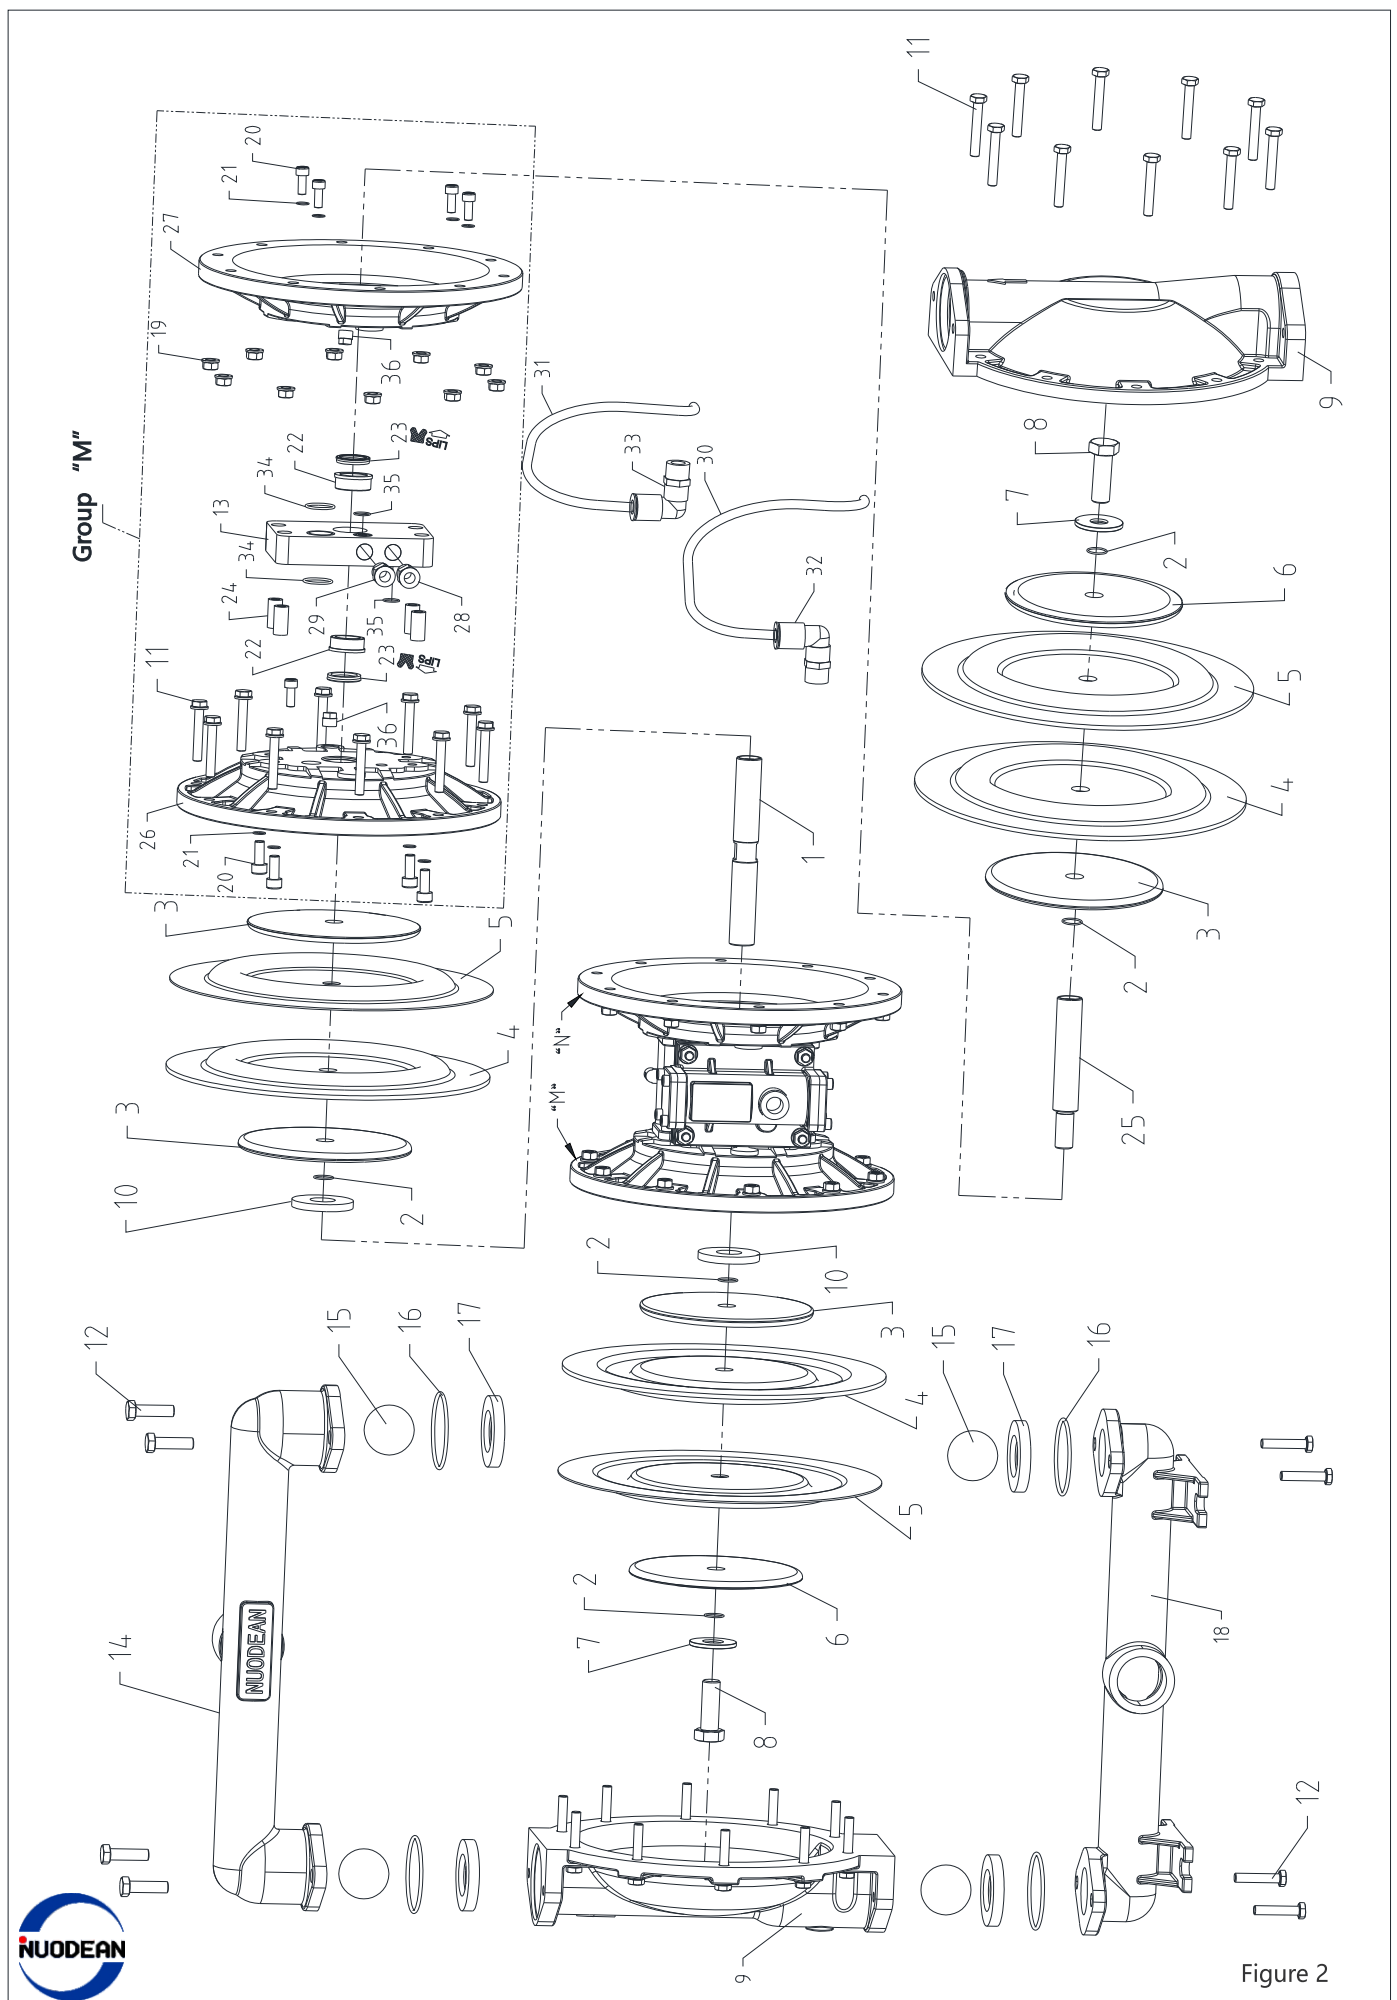

Figure 2
1. Remove (31), and (30) from the pump. See Figure 2.
2. Remove the manifolds (14) & (18) . See Figure 2.
3. Remove (15) balls, (16) O-rings, and (17) seats. See Figure 2.
4. Remove (9) fluid caps. See Figure 2.
5. Remove (8) bolts, (7) washers, (5) or (5 & 4) diaphragms, and (3), and (6). See Figure 2.
6. Remove group "M" including (20), (21), (26), (11), (36), (23), (22), (24), (29), (35), (28), (29), (34), (13), & (27).
7. Remove (26) and (1). See Figure 2.
8. Remove the other spare parts indicated in the Figure 2. See Figure 2.
NOTE: Only PTFE diaphragm models use a primary diaphragm (5) and a backup diaphragm (4). See Figure 2
- Lubricate (1) & (25) diaphragm rod with white grease.
- Be certain (5) or (5&4) diaphragms align properly with (9) fluid caps before making final torque adjustments on bolts and nuts to avoid twisting the diaphragm.
- When reassemble (23) Y-type rings, Pay attention to the orientation of Y-type rings. Must ensure correct installation. See Figure 2.